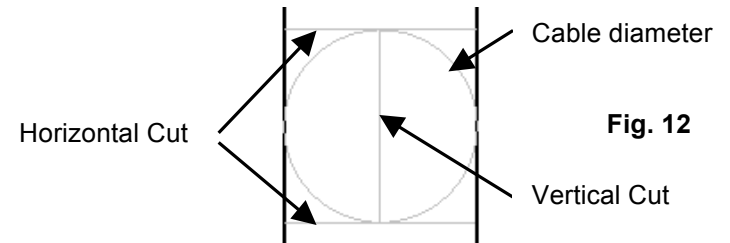

Fig. 12
10. Use Utility Knife to cut minimum material required to route cabling (Fig.11 and Fig. 12).